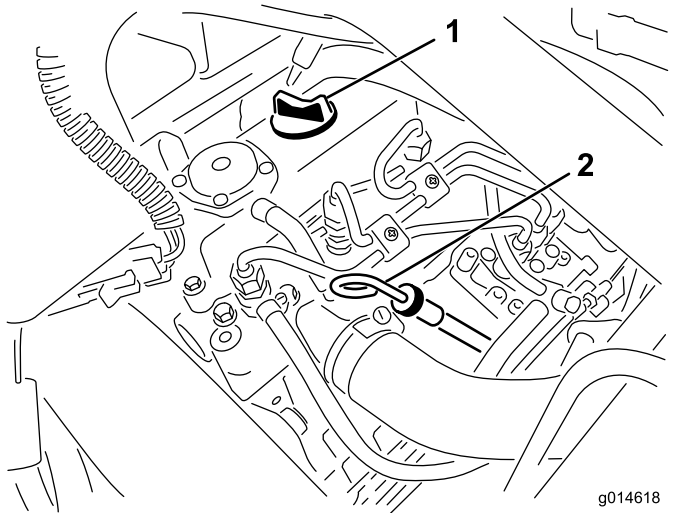

Figure 31
2. Remove the dipstick and wipe it with a clean rag (Figure 31).